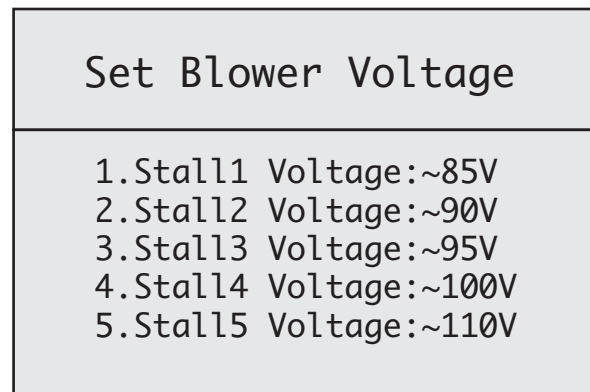

Figure 26
2. Using the **SCROLL DOWN** key, move down to option 4: "SET BLOWER VOLTAGE". Press **ENTER** again to move into the "SET BLOWER VOLTAGE" screen. **SEE FIGURE 26.**